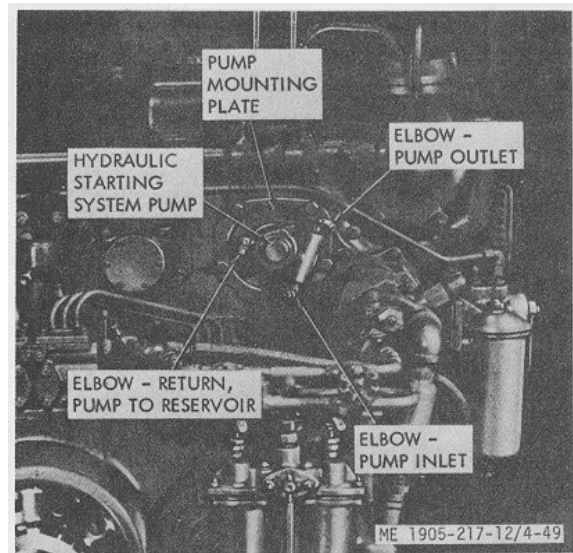

Figure 4-49. Hydraulic starting system pump.
(2) *Engine driven pump.* With the engine running at 1,500 rpm or more, loosen the hose connection at the discharge side of the pump (fig. 4-49) until a full stream of oil is discharged. Connect the hose to the pump and alternately loosen and tighten the swivel fitting on the discharge hose until the oil leaking out, when fitting is loose, appears free of air bubbles.
*a. General.* The engine driven charging pump is a single piston positive displacement type. The ball check valves and the unloading valve are automatically controlled by the accumulator pressure. The pump shaft is supported on ball bearings; a seal, pressed into the pump bearing retainer, prevents leakage. The pump is attached to the flywheel housing (fig. 4-49) and is driven by a drive plate bolted to the balance shaft gear.
- (1) Close both accumulator valves.
- (2) Release the oil pressure in the hydraulic starting system.
(4) Disconnect the hydraulic lines from the pump. Then, loosen the bolts holding the mounting plate and remove the plate and pump as an assembly.
*c. Pump Installation. See figure 4-49.*
(1) Affix a new gasket to the flywheel housing, using a non-hardening gasket cement on the flywheel housing side only.
(2) Aline the tangs on the pump drive with the slob in the drive plate. Attach the pump and mounting plate securely to the engine with bolts and lockwashers.